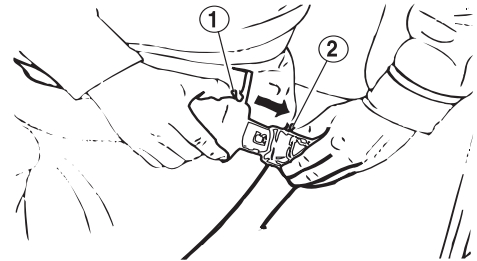

Fig 71
Insert belt end (1, Fig 71) into buckle (2). Pull belt to check that belt end is locked into buckle.